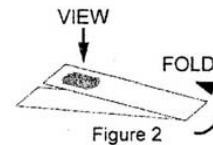

Figure 2
3. Remove strip from solution, do not shake. Wait a full 30 seconds. While waiting, fold the white plastic handle of the test strip under the aperture (as in Figure 2 below) so that it provides a consistent viewing background.